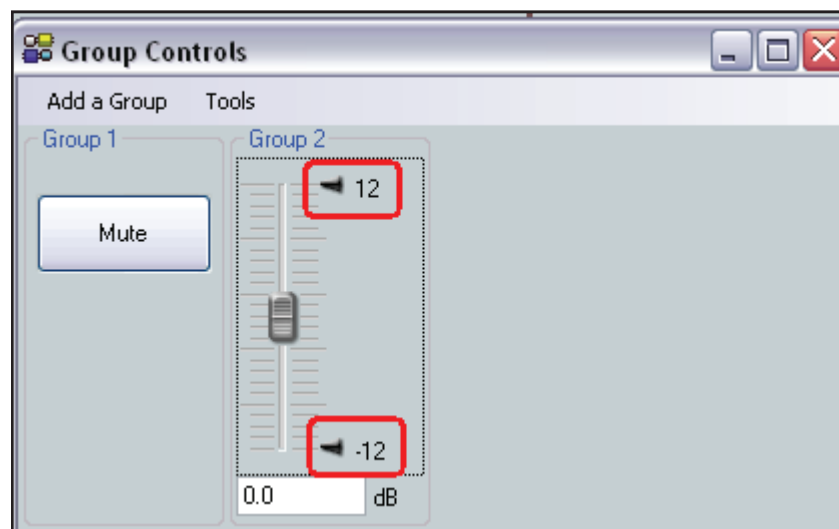

Figure 52. Group Controls Dialog Box
1. Click **Tools > Configure Groups** (see figure 52, below) to open the configure groups dialog box
Click **View > Group Controls** to open the group controls dialog box (see figure 52). The group controls dialog contains two menu items: